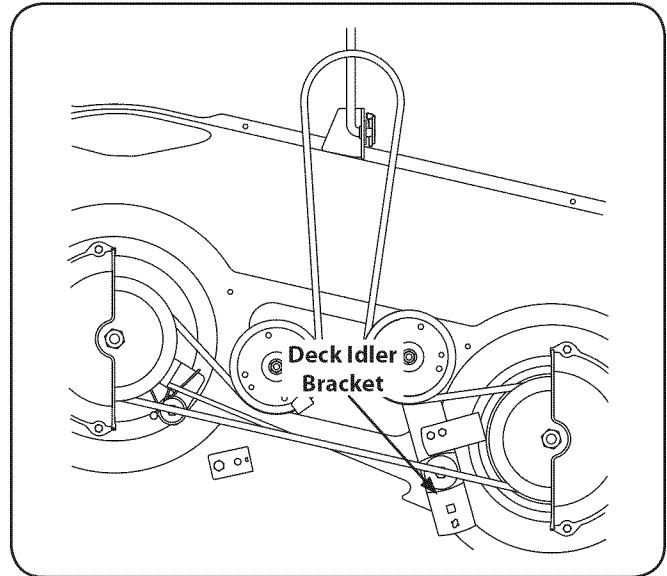

Figure 7-2
**NOTE:** If there is too much tension on the belt for it to be easily removed from the electric PTO clutch, carefully insert a  $\frac{3}{8}$ " drive ratchet wrench (set to *loosen*) into the square hole found in the deck idler bracket and pivot it toward the tractor's left side to relieve tension on the belt. See Fig. 7-2.